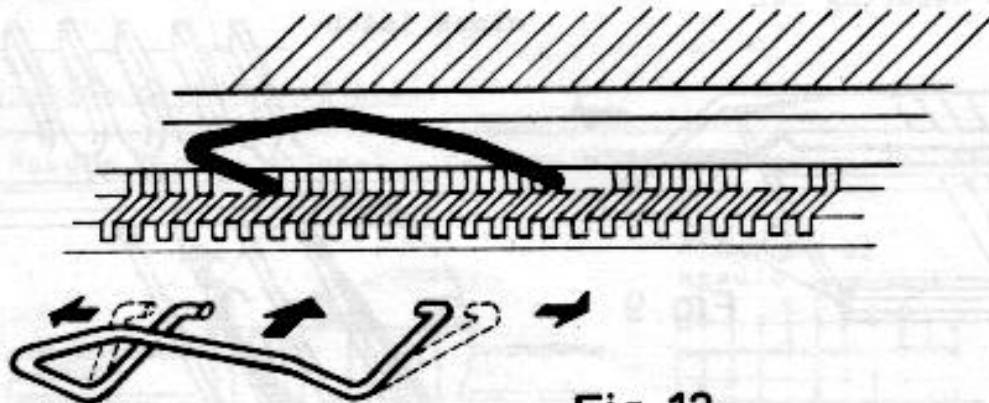

Fig.12
- ④ Slide racking handle into tube
- ⑤ Set up trip wire (s.page 8, fig.12)
- ⑦ Clamps for fixing to the table